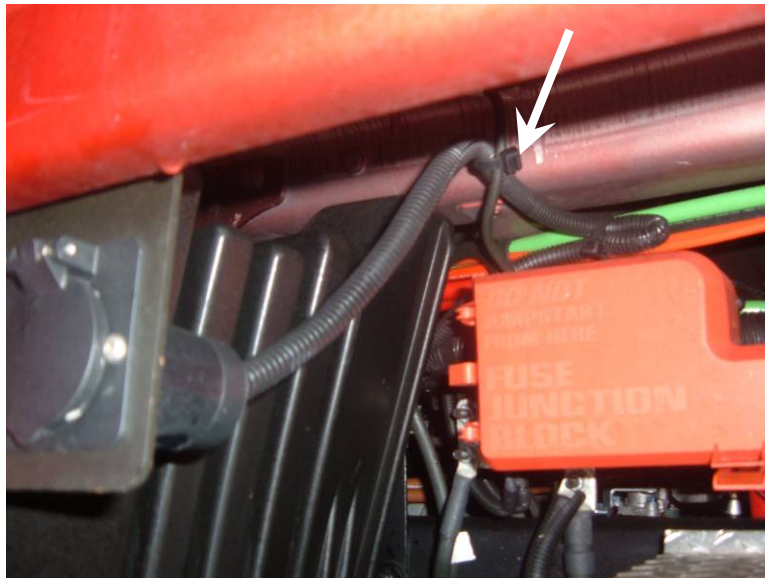

Figure 13 - Cable Routing and Cab Connection
- h. Route cable between the frame and cab, mounting the wire to the cab reinforcement rib. See Figure 13.